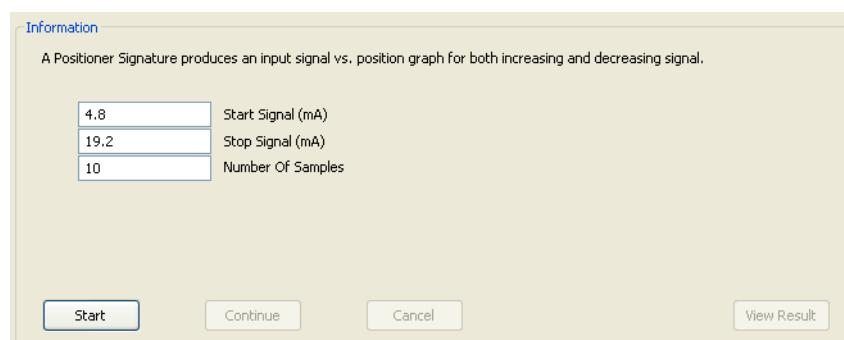

Figure 84 Information Field - Ramp Test
2. Click **Ramp Test** and the *Information* area appears (Figure 84).